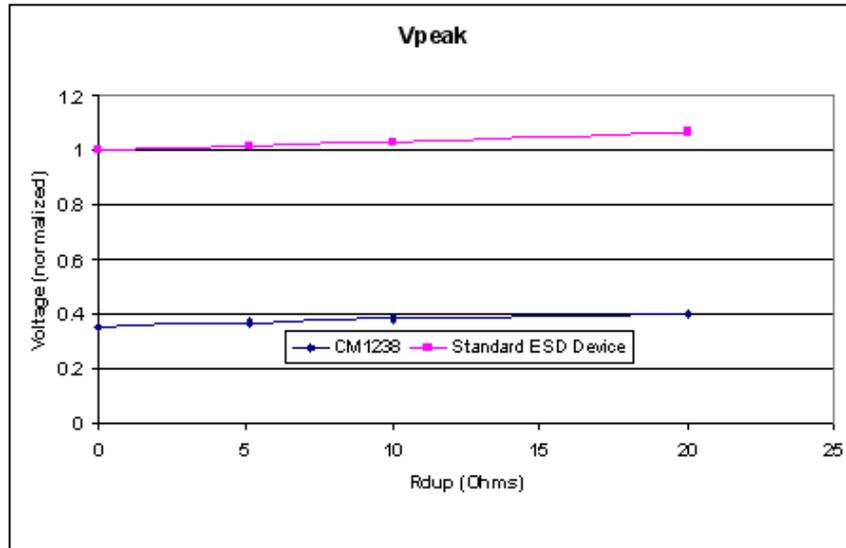
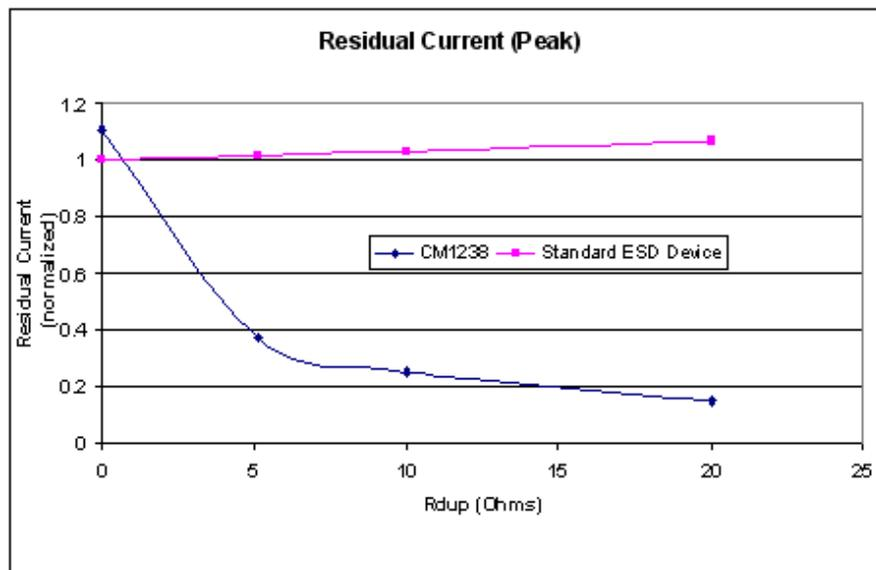
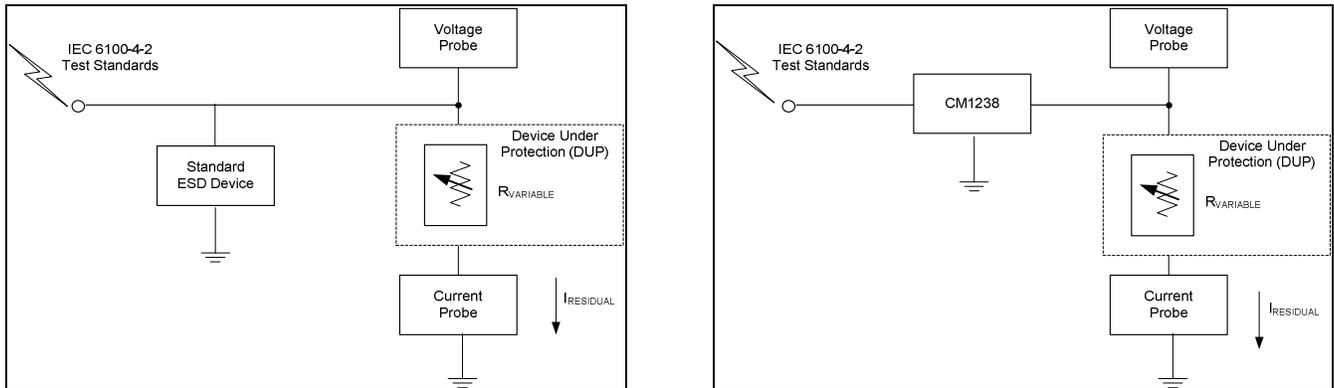

Figure 4. Normalized VPeak (8KV IEC-61000 4-2 ESD Contact Strike) vs. Loading (RDUP)*
Figure 5. Normalized Residual Current into DUP vs. RDUP*
Figure 6. Test Setups: Standard Device (Left) and CM1238 (Right)
Figure 4. shows that the CM1238 lowers the peak voltage and clamping voltage by more than 60% across a wide range of loading conditions in comparison to a standard ESD protection device. Figure 5. also indicates that the DUP/ASIC protected by the CM1238 dissipates less power than a standard ESD protection device. This data was derived using the test setups shown in Figure 6.
*RDUP is the emulated Dynamic Resistance (load) of the Device Under Protection (DUP). See Figure 6.